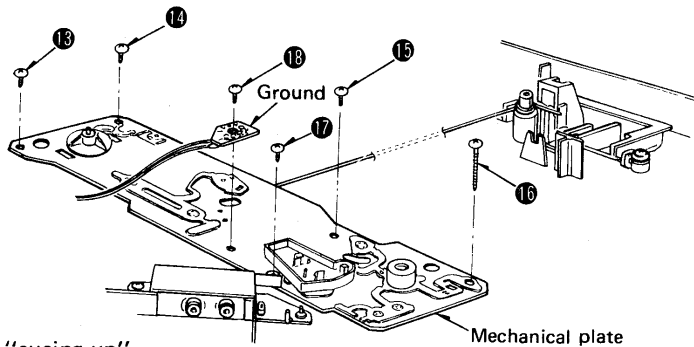

Fig. 6
● How to remove the mechanical plate (Fig. 6)
2. Remove the 5 setscrews [Fig. 6: ⑬ ~ ⑰] of the mechanical plate and output terminal shielding plate, and the setscrew ⑮ of the Ground terminal.